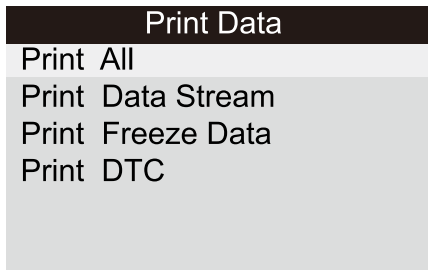

Figure 5.2
- 4) Use the **UP/DOWN** scroll button to select **Print Data** from **Main Menu** in the scan tool, and press the OK button. (Figure 5.2)